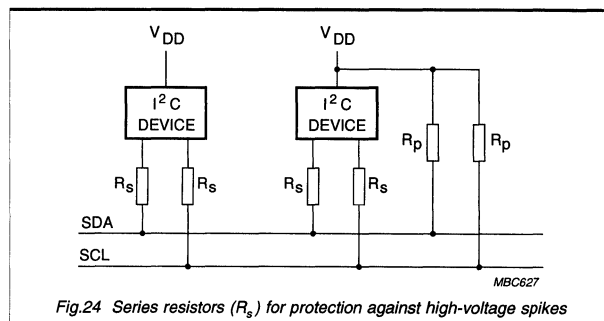

Fig.24 Series resistors (Rs) for protection against high-voltage spikes
- As shown in Fig.24, series resistors (Rs) of e.g. 300 Ω can be used for protection against high-voltage spikes on the SDA and SCL lines (due to flash-over of a TV picture tube, for example).
For standard-mode I2C-bus devices, the values of resistors Rp and Rs in Fig.24 depend on the following parameters: